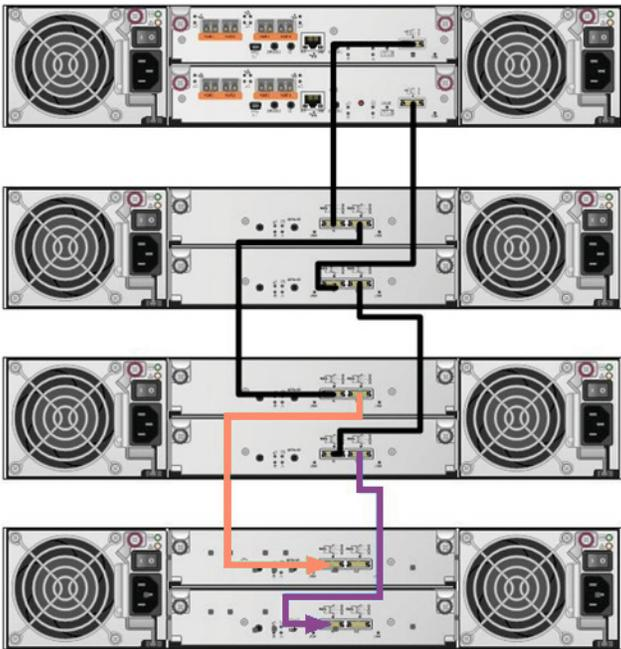

Figure 27. Extended straight-through cabling configuration
4. Connect the new SAS cable (Figure 27, orange cable) from the A port (Out) of the current MSA storage system to the A port (In) of the new storage enclosure.
7. Connect the new SAS cable (Figure 27, purple cable) from the B port (Out) of the current MSA storage system to the B port (In) of the new disk enclosure.